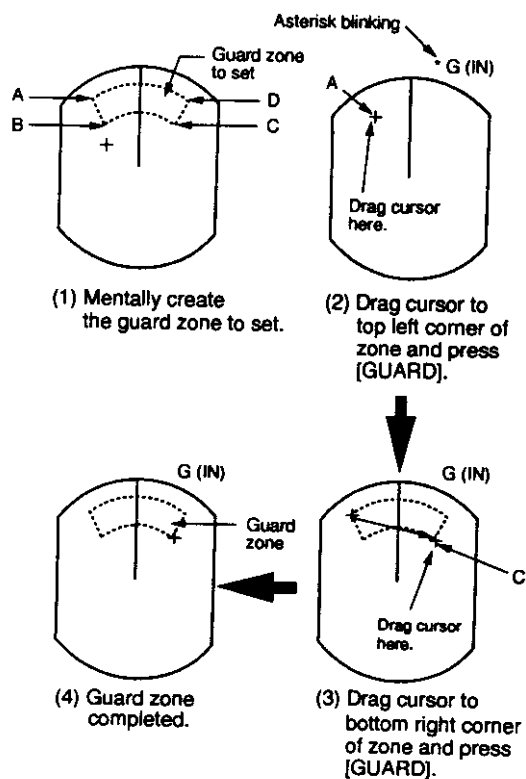

Figure 3-8 How to set the guard zone
1. Mentally create the guard zone you want to set. Figure 3-8 shows an example.
2. Operate the omnipad to set the cursor on point A (or B). Press the [GUARD] key. "**G (IN)" or "**G (OUT)," with asterisk blinking, appears at the top right-hand corner of the display. See Figure 3-8 (2). (The asterisk indicates the guard zone is partially set.)
3. Operate the omnipad to set the cursor on point C (or D). See Figure 3-8 (3).
4. Press the [GUARD] key. The asterisk disappears. See Figure 3-8 (4).